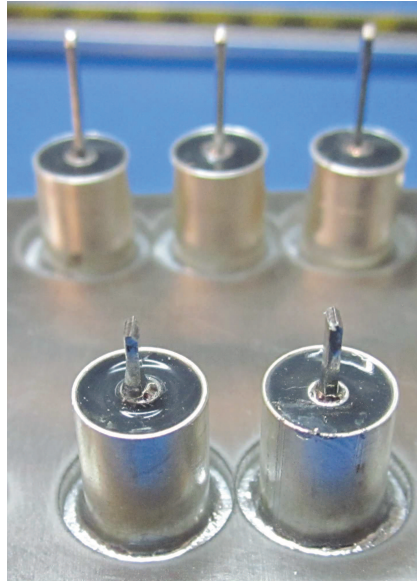

Figure 17: Trimmed Terminal Barrier Strip
4.3.11 The two position Terminal Barrier Strip will need to be trimmed to clear the power supply, the final length should be approximately 0.200 inches. This is shown in **Figure 17**.